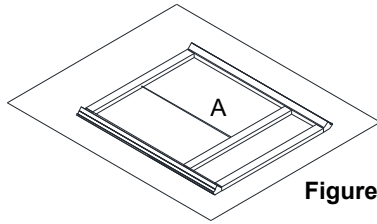

Figure 1
1. Place the face frame (A) face down on a flat soft working surface to ensure that the face is not scratched or damaged. **(Figure 1)**